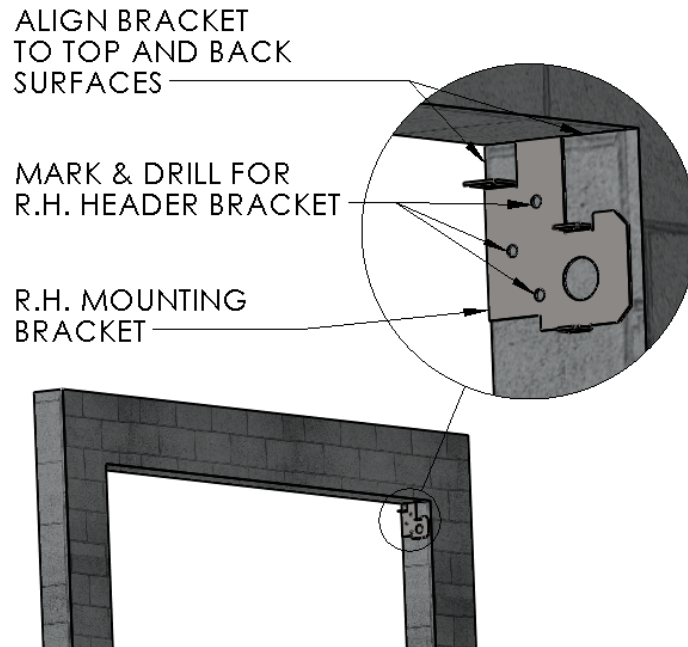

Figure 4 MARK, DRILL, INSTALL R.H. HEADER MOUNTING BRACKET
3. At the upper right of the opening, use the *R.H.* Header Mounting Bracket to transfer the hole locations to the mounting surface and drill for your hardware. Install your hardware through the Header Mounting Bracket into the mounting surface. (Figure 4 MARK, DRILL, INSTALL *R.H.* HEADER MOUNTING BRACKET)